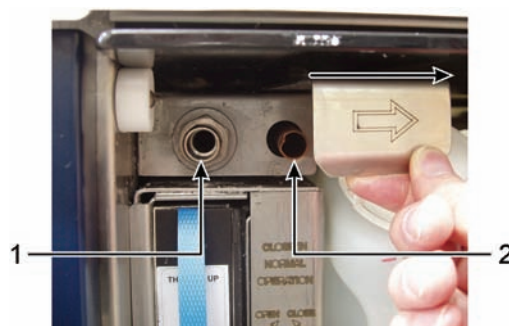
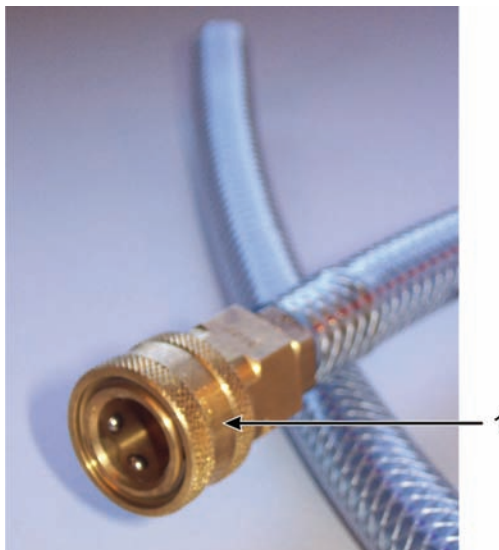

Figure 108: Remote fill/drain flap open with reagent line (1) and wax waste line (2).
Figure 109: Remote fill/drain hose with locking ring (1)
The remote fill/drain line and the wax drain outlet sit above the carbon filter in the reagent cabinet (see Figure 108). A protective flap covers the outlets. This flap is designed to prevent reagents or wax spraying into the laboratory should a drain action be started without a hose attached. The wax waste line is heated to ensure that the wax does not solidify during the drain.
- Before draining a wax station, open the upper reagent cabinet door, slide back the fill/drain flap then fit the wax waste hose to the wax waste line (see item 2 in Figure 108). Ensure the wax waste hose drains into a suitable container. Ensure the hose remains out of the drained wax so that wax can't solidify on the end of hose.
- Before filling or draining reagent bottles, connect the remote fill/drain hose (see Figure 109) to the remote fill/drain line (see item 1 in Figure 108). The hose has a push-fit coupling that ensures a secure connection to the line.
To fit the hose, open the upper reagent cabinet door, slide back the fill/drain flap, and push the coupling onto the end of the line. To remove the hose, slide back the locking ring (item 1 in Figure 109) and pull the hose off the remote fill/drain line.